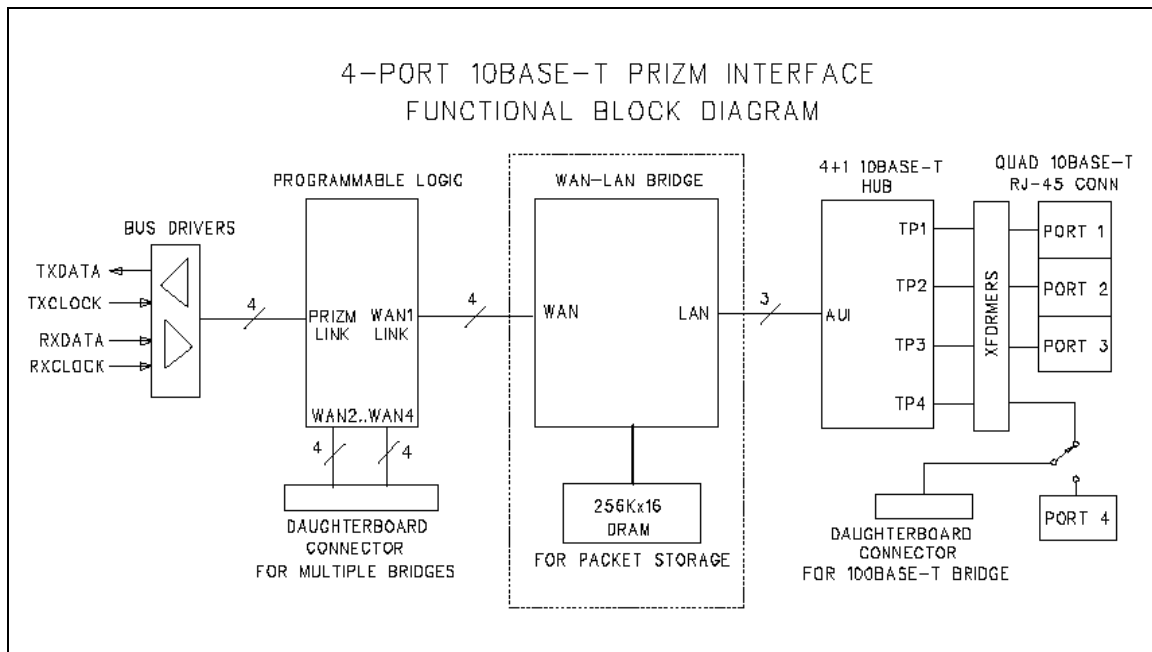

Figure 2 4-Port Ethernet Board Functional Block Diagram
- Figure 2 4-Port Ethernet Board LEDs and Ports 7
Refer to Figure 2 for a functional block diagram of the 4-Port Ethernet board.
The 10BASE-T hub chip supports four independent 10BASE-T twisted-wire-pair (TWP) ports and an additional AUI port, as shown in Figure 2. The AUI port is used to connect the single LAN port of the WAN-LAN bridge to the hub leaving free the four 10BASE-T ports. A quad RJ-45 connector is mounted on the board faceplate for the four Ethernet ports.